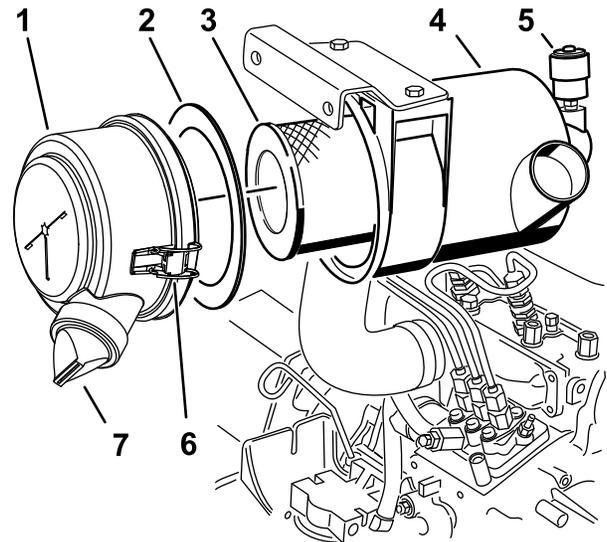

Figure 66
3. Service the air-cleaner filter (Figure 66).